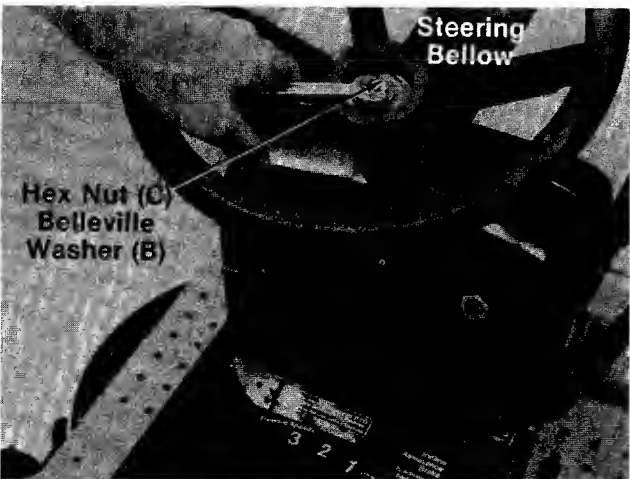

FIGURE 14.
3. Secure with belleville washer (B) (cupped side against the steering wheel) and hex nut (C). See figure 14.
4. Press the steering wheel cap (A) on the steering wheel by hand.